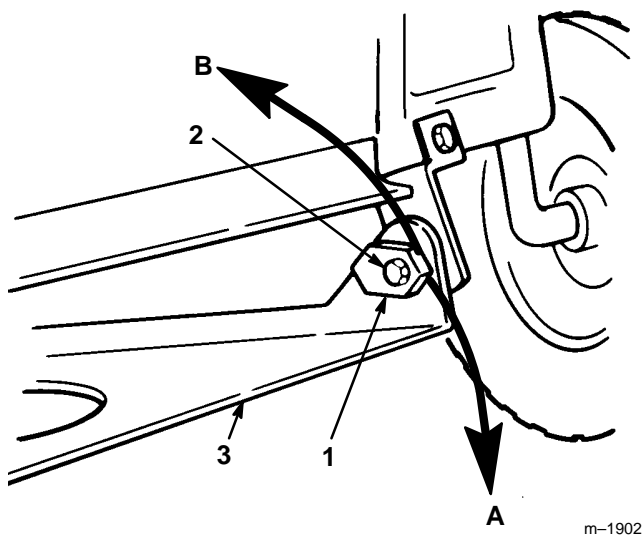

Figure 50
8. Adjust the front-to-rear slope by rotating the special slope adjusting nuts on both sides of the mower pivot mount (Fig. 50).
9. Using a 1” wrench or socket slowly rotate the left side slope adjusting nut down to raise the front of the mower and up to lower it (Fig. 50). Rotate the slope adjusting nut until the front of the mower is 1/4” to 5/8” (6 mm to 16 mm) lower than the rear of the mower.